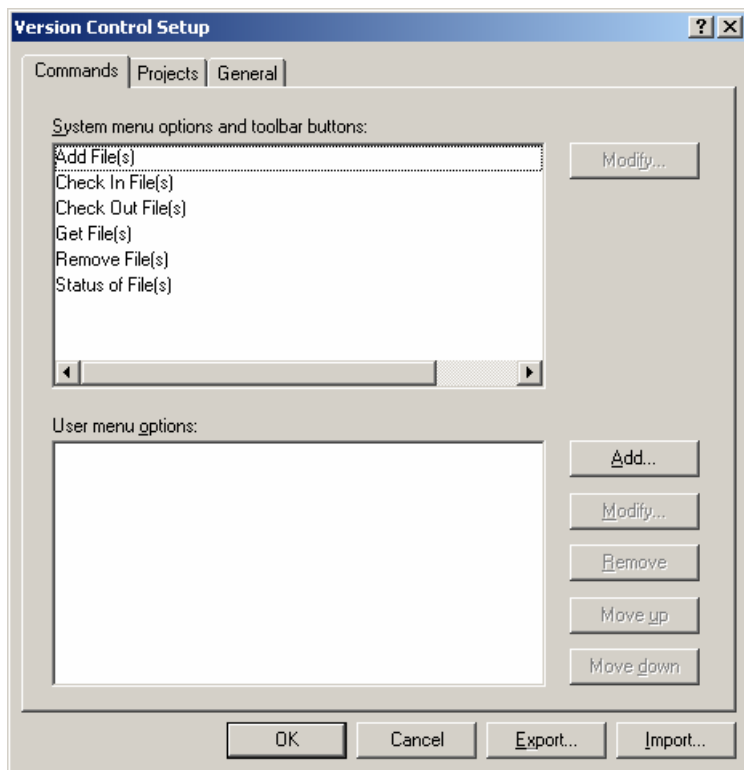
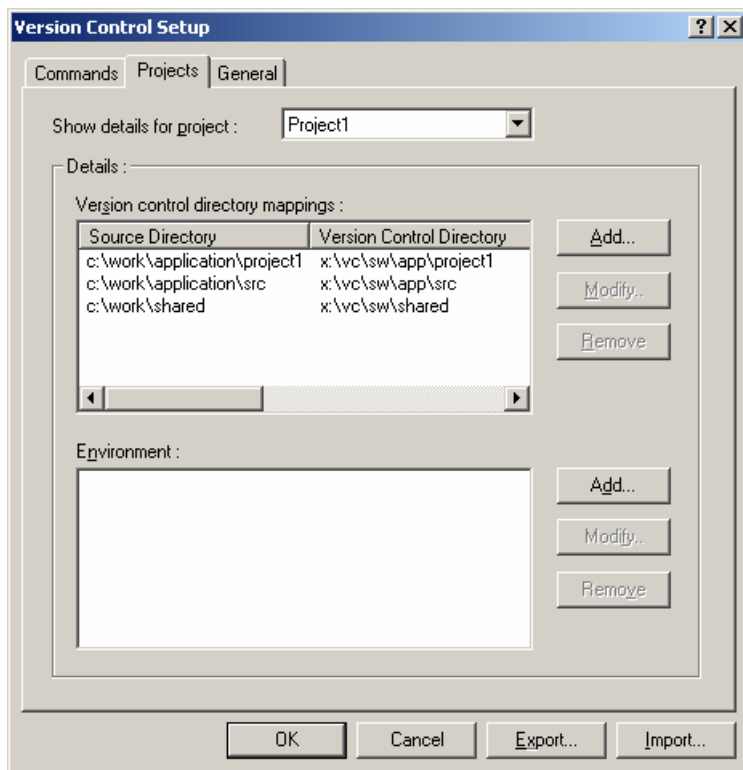

Figure 8.1: Version Control Setup Dialog Commands Tab
Figure 8.7: Version Control Setup Dialog Projects Tab
The custom version control support allows you the most flexibility in specifying how a version control system is to be used. To configure it, select [**Version Control->Configure...**]. The “Version Control Setup” dialog will be displayed (figure 8.1).
1. Select **[Version Control->Configure...]**. The dialog shown in figure 8.1 will be displayed.
1. Select [**V**ersion **C**ontrol->**C**onfigure...]. The dialog shown in figure 8.1 will be displayed.
1. Select [**Version Control->Configure...**]. The dialog shown in figure 8.1 will be displayed.
However, when executed, this command can only ever get the file `MAIN.C`. To resolve this problem, HEW uses a system of placeholders and directory mappings. The latter tell the HEW which "working" directories (i.e. where source files are being worked on) map to which "controlled" directories (i.e. where the source files are stored in the version control system). Mappings between these two directory systems can be specified via the "Projects" tab of the "Version Control Setup" dialog (figure 8.7).
1. Select [Version Control->Configure...]. The dialog shown in figure 8.1 will be displayed. Select the “Projects” tab, and the dialog shown in figure 8.7 will be displayed.
1. Select [**Version Control->Configure...**]. The dialog shown in figure 8.1 will be displayed. Select the “Projects” tab, the dialog shown in figure 8.7 will be displayed.
Select the “Projects” tab of the “Version Control Setup” dialog to view the current settings (figure 8.7).